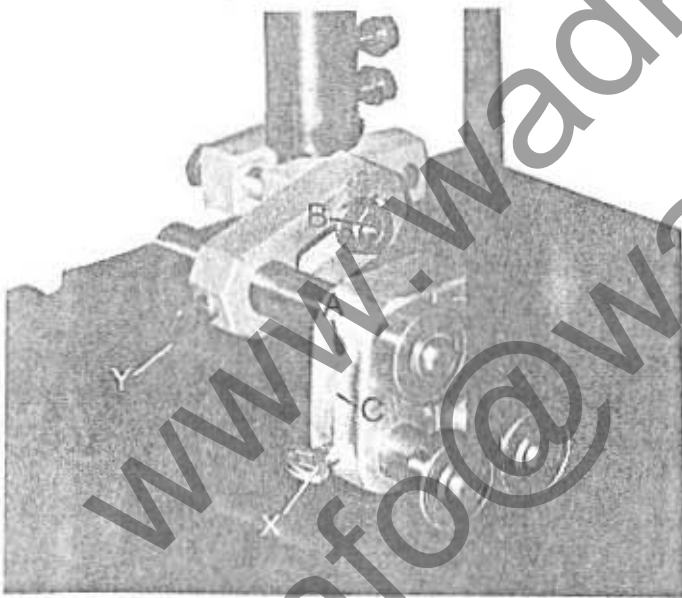

FIG 13
- 1) Loosen grub screw "A" and M10 "B" Fig 13. then position guide body "C" central and parallel to blade see Fig 14, then tighten up grub screw "A" and M10 Nut "B".
- 2) Slacken thumb screw "Y" Fig 13, and set near guide roller approximately 5mm clear of back of blade (See Fig 15) and lock up thumb screw securely.
- 3) Slacken thumb screws "X" Fig 13, and move side guide rollers forward as positioned in Fig 15, then pivot side guide rollers on anti lock eccentrics until they are just clear of blade and lock thumbscrew "X".